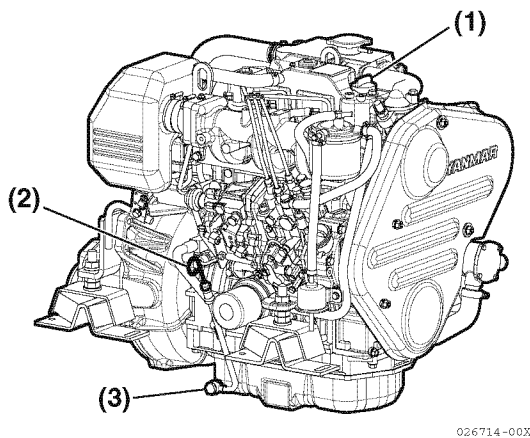
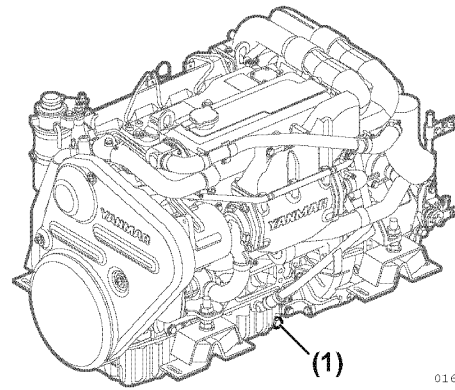

Figure 8-5
Figure 8-6
1. Remove oil filler cap (yellow) at top of rocker arm cover (Figure 8-5, (1)).
2. Remove the engine oil dipstick (Figure 8-5, (2)).
4. Remove pipe joint bolt (Figure 8-5, (3)) or drain plug (Figure 8-6, (1)) and drain engine oil to appropriate vessel. Dispose of used oil properly. *NOTICE: ALWAYS be environmentally responsible.*